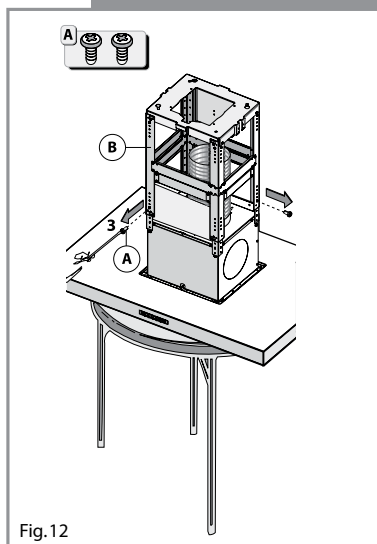

Fig.12
2. Remove the screws(A) fastening the lower and upper(B) support sections as shown in fig 12 below.